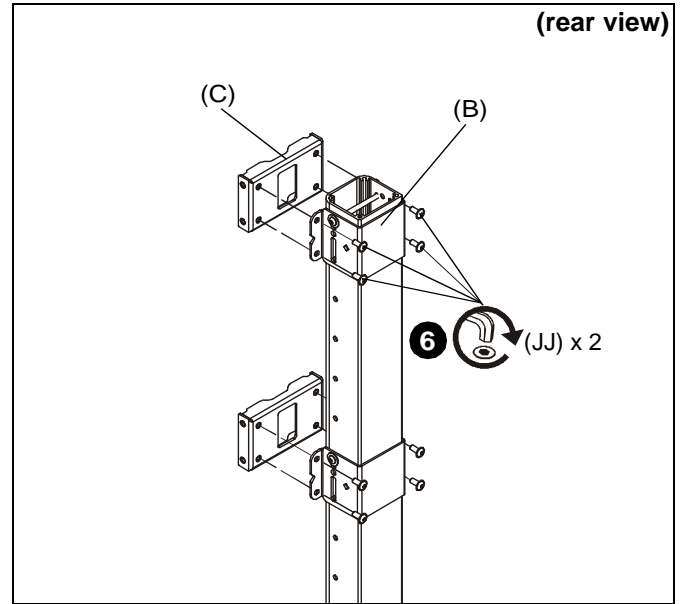

Figure 5
6. Use four 5/16-18 x 3/4" button head flange screws (JJ) to secure one quick connect base (C) to each installed clamp bracket (B). (See Figure 5)